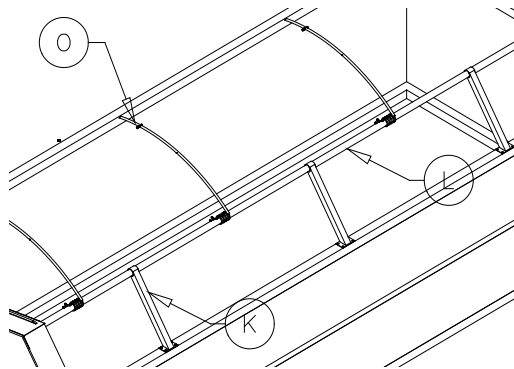
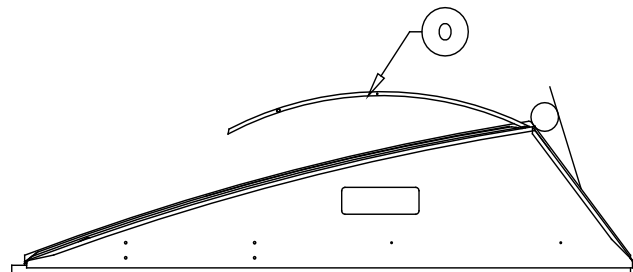

Figure 11
Figure 12
(See Figure 11, 12)
**Procedure:** Evenly space the Spring Loaded Cross-Members (O) on the Support Wall Roll-tube (L) between the hoods and Support Wall brackets (K) (see Figure 11). Adjust the Spring Loaded Cross-Members so that they are pointing upwards approximately at 10 o'clock. (Looking from the rear of the box) As the tarp opens, the Spring Loaded Cross-Members will spring upwards approximately 2ft above the tarp roll (See Figure 12). Tighten the 2" muffler clamp. The height of the Spring Loaded Cross-members can be adjusted to different heights to allow for more clearance. This will depend on what you are hauling.